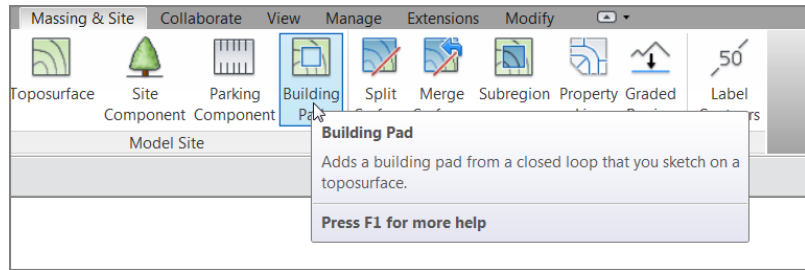

FIGURE 18.19: The Building Pad button
2. On the Massing & Site tab, click the Building Pad button, as shown in Figure 18.19.